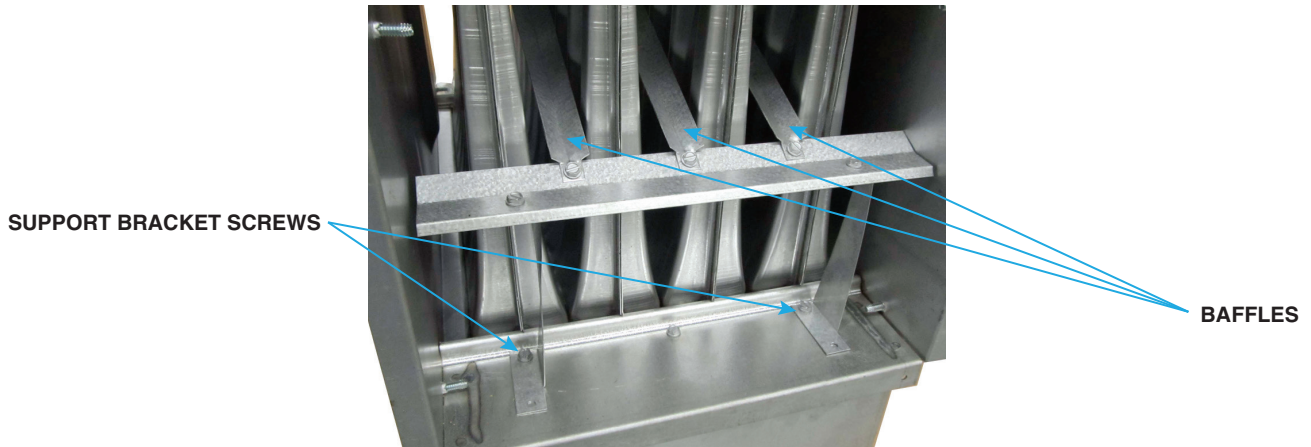

Figure 3. Heat Exchanger Baffle Removal
1. Remove heat exchanger baffles (see Figure 3):